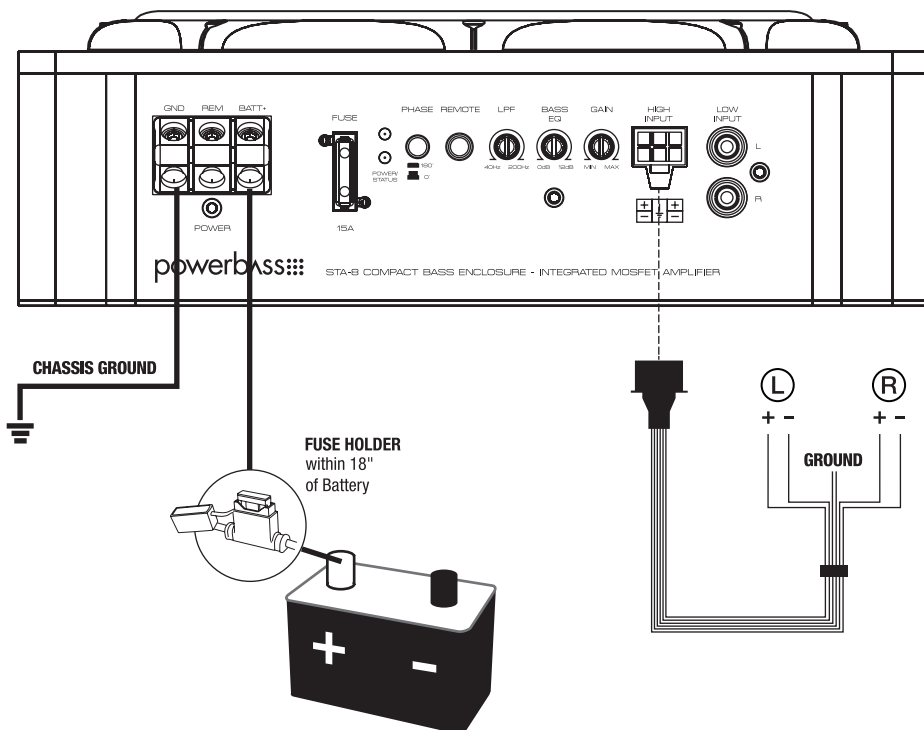

Fig.4 High Level Connections
**High Level Input Connections** (fig 4)